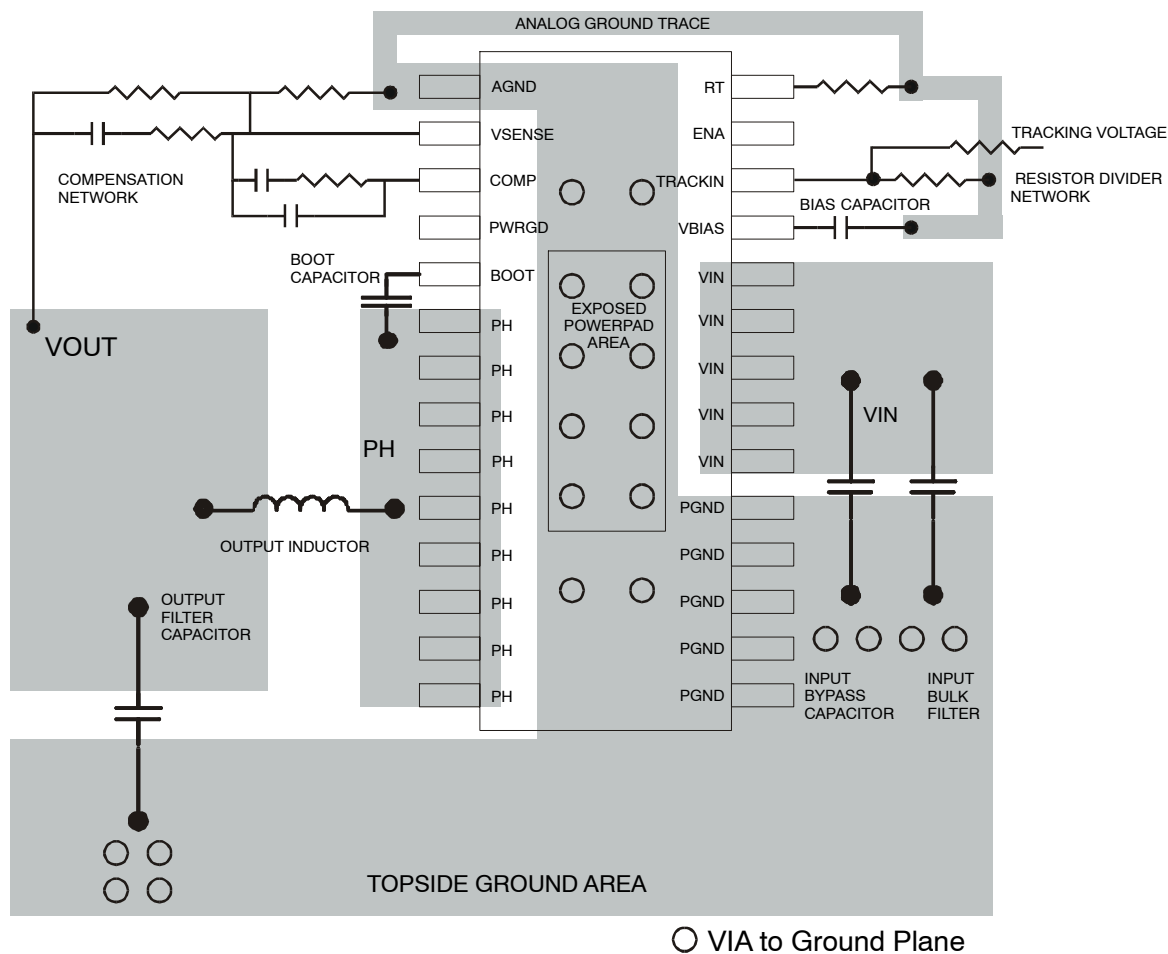

Figure 9. TPS54880 PCB Layout
(1) Specified by design
(2) Static resistive loads only
(3) Specified by the circuit used in Figure 9
(4) Matched MOSFETs low-side r_{DS(on)} production tested, high-side r_{DS(on)} specified by design
Figure 9 shows a generalized PCB layout guide for the TPS54880.